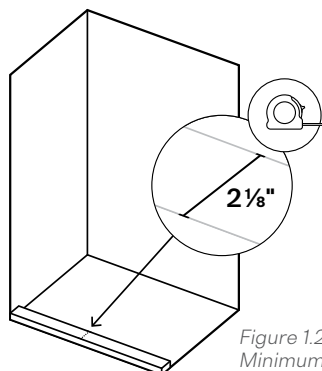

Figure 1.2 Astro Square Slider Minimum Threshold Width
- d. **Verify Threshold Width** - If your shower installation features a raised threshold, the completed threshold must be a minimum width of **2 1/8"** or this model will not fit your space. (Fig. 1.2)